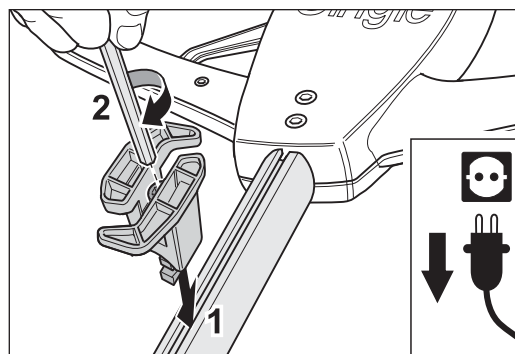

Fig. 22 Insert the sliding block in the groove on the guide tube and tighten the screw.
- 3 Push the sliding block into the groove on the guide tube and tighten the screw. As you do so, the sliding block turns so that the cable holder is clamped in place (Fig. 22).